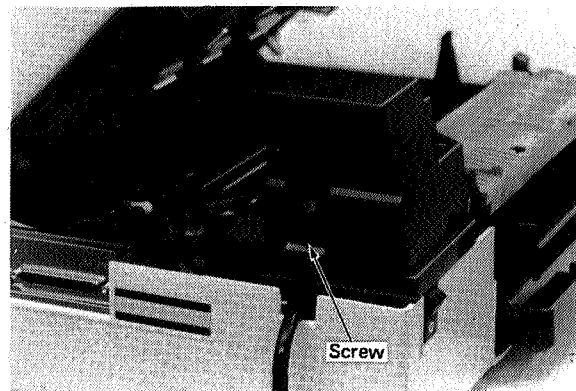

Figure 4-10
- (1) Open the printer. (Raise the upper half.)
- (2) Remove the fastening screw on the power switch cover and take the cover off. (See Fig. 4-10.)
- (3) Remove fastening screw A (2) and take out the door switch together with the switch plate. Pull the four Faston connectors out, remove fastening screw B (2) and take out the door switch.